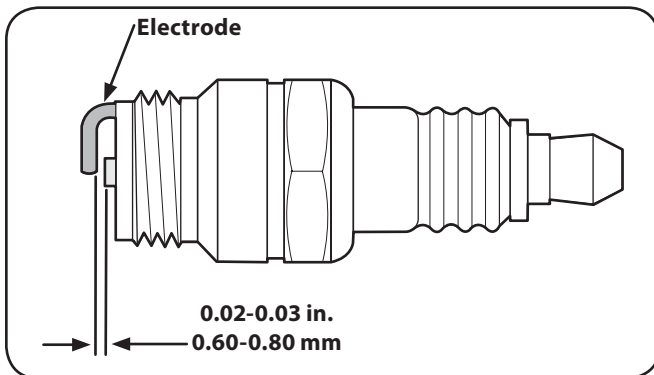

Figure 6-4
- Measure the plug gap with a feeler gauge. Correct as necessary by bending side electrode. See Fig. 6-4. The gap should be set to 0.030 in.